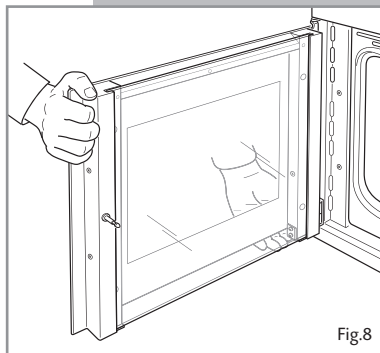
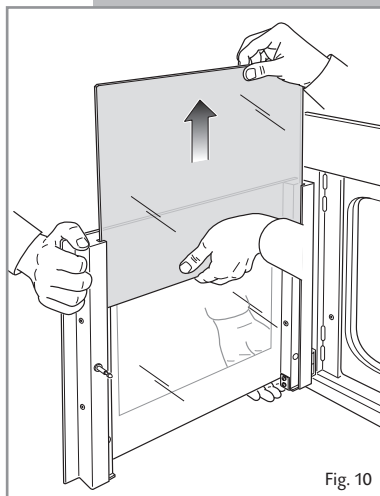

Fig.8
Fig. 10
When removing and replacing the inner glass, the door should be held still by one person (fig. 8). A second person should gently remove the glass (fig. 10).
- Gently pull out the inner pane of glass (Fig. 10.). Forcible removal of the door glass may lead to damage of the door hinges.